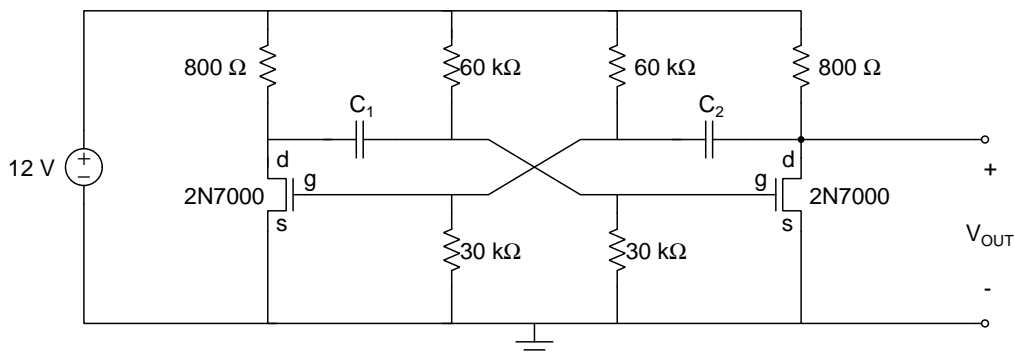

Figure 2: Astable multivibrator oscillator circuit of Figure 1 with 2N7000 transistors used as voltage-controlled switches.
1. Simulate the operation of the astable multivibrator circuit using the 2N7000 NMOS transistors to implement the voltage-controlled switches, as shown in Figure 2. Use the values of the capacitors determined in step 5 above. In NGSpice, use the **2N7000_mod** symbol for the transistor model. This transistor has a nominal $V_t = 1.5$ V.